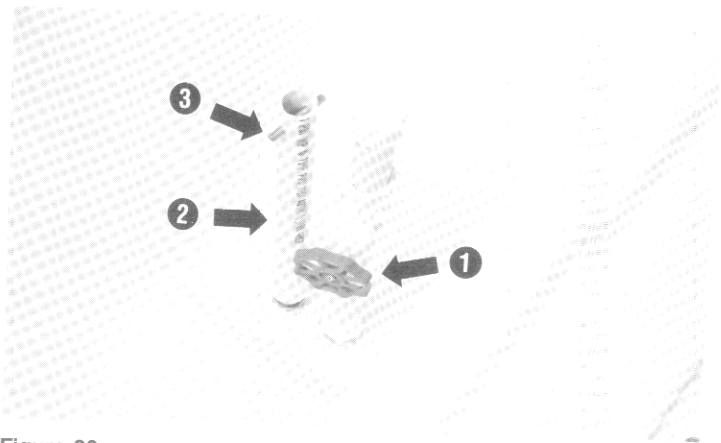

Figure 20
1. Open the valve. To open the valve, turn the knob (1) counterclockwise. See figure 20.
1. While the boat is running, remove the drain tube (2) from the bottom of the baitwell. To remove the drain tube, turn the rod (3) counterclockwise. See figure 20.